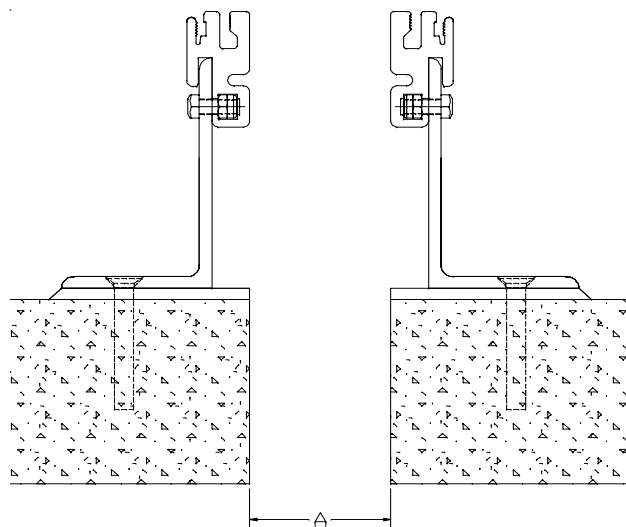

Figure 4
**STEP 5.** Select the Base Members and the Base Member Anchors. Place the Base Members back into their installed positions, ensuring that they are level, straight and properly aligned. Using the anchors provided by the factory, attach the Base Members to the concrete (see Figure 4).